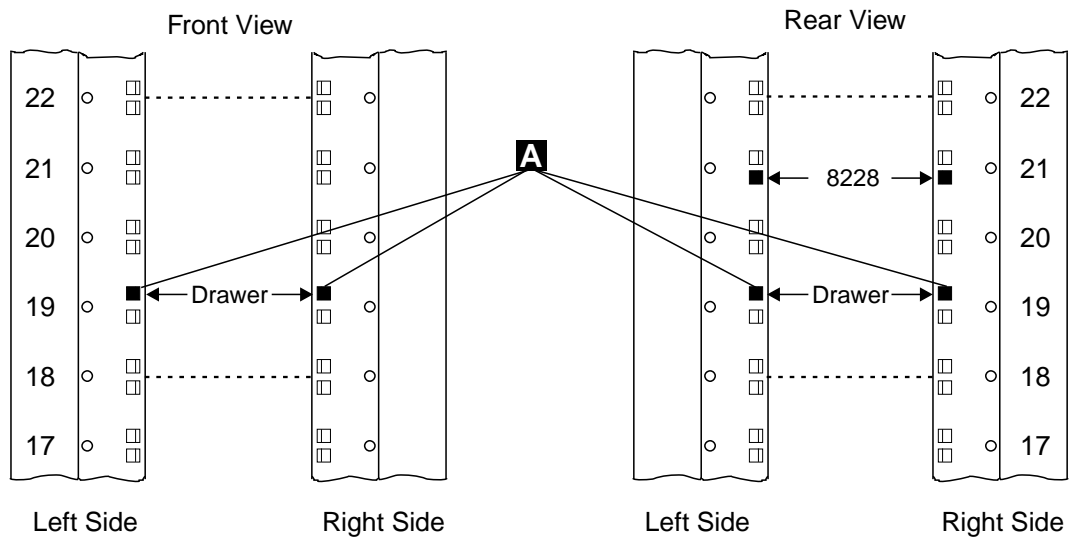

Figure 1-29. Installing Captive Nuts for the Service Drawer
13. ____ Refer to Figure 1-29, and if needed install four captive nuts **A** (PN 58G5766) on the front and on the rear side of the controller expansion.